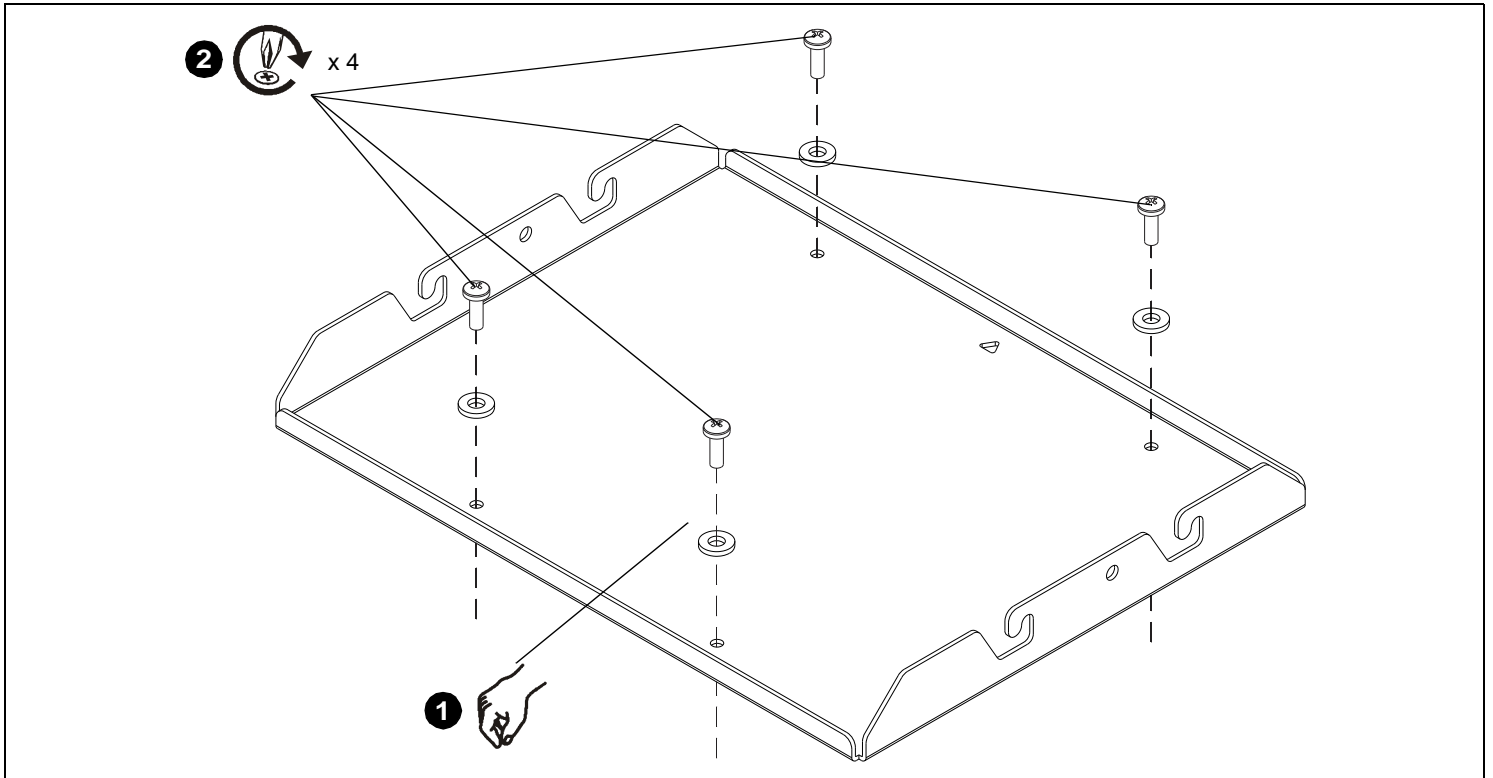

Figure 1
1. Lower custom HB bracket onto top of projector. Ensure that triangle in bracket points toward front of projector. (See Figure 1)
2. Attach HB bracket to projector using four M6 x 12mm Phillips pan head screws through four holes in the HB bracket. (See Figure 1)